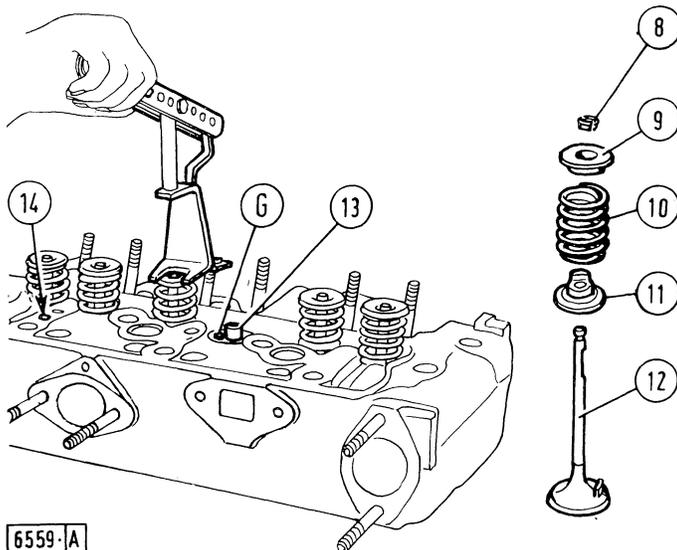

Fig. 23 - Removing (or Refitting) the Valves and Springs Using Tool Part No. 291050
Ensure that rocker lubricant way (14, Fig. 23) is clear.
To remove the valves take off the cylinder head, compress the valve springs using tool Part No. **291050** (see, Fig. 23) and withdraw spring cones (8).